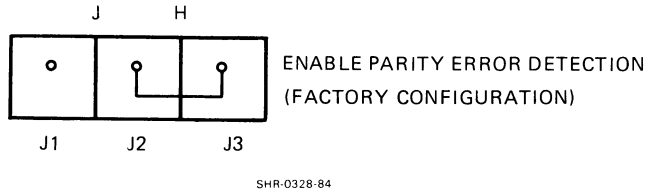

Figure 2-8 Enable/Disable Parity Error Detection
2.2.7 Enable Parity Error Detection Jumper (Figure 2-8)